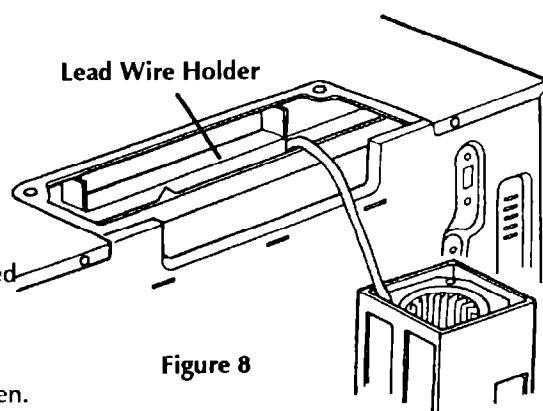

Figure 8
3. Reposition lead wire by carefully pulling the end attached to the fan unit out of the left side of the holder and re-positioning it to the right side as shown in Figure 8.